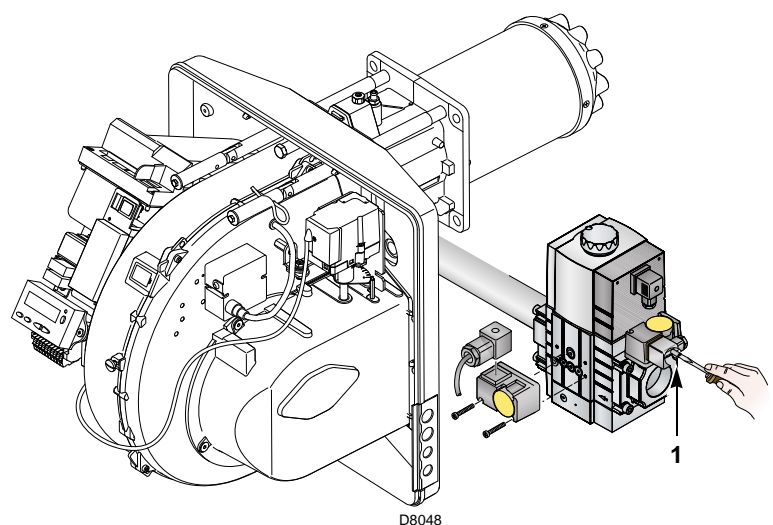

Fig. 24
- Check the gas supply pressure by connecting a pressure gauge to the pressure test point 1)(Fig. 24) of the minimum gas pressure switch: it must be lower than the maximum allowed pressure of the gas train, as shown on the characteristics label.
- Bleed the air from the piping of the gas train, connecting a plastic tube to the pressure test point 1)(Fig. 24) of the minimum gas pressure switch. Take the vent tube outside the building so you can notice the smell of gas.